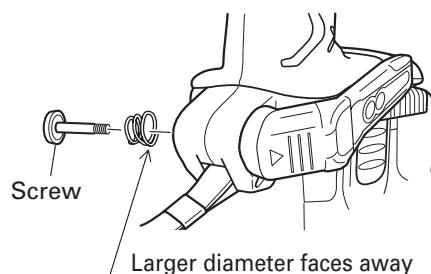

Fig. 10
- Install the hook and spring on the other side and securely fasten with screw. (Fig. 10)
Pay attention to the spring orientation. Install the spring with larger diameter away from you. (Fig. 10)